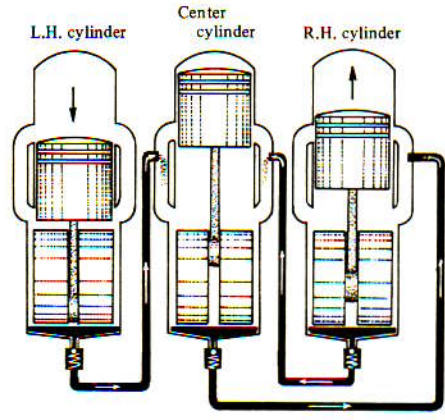
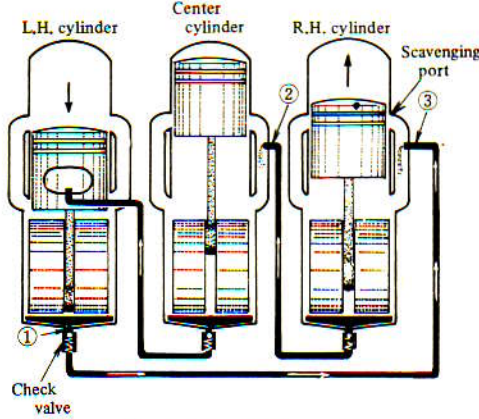

Fig. 6-12 SRIS type 1
Fig. 6-13 SRIS type 2
The construction of SRIS (Suzuki Recycle Injection System) is so made that oil accumulating in the crankcase bottom is forced into the scavenging ports of adjacent cylinders through the rubber pipes with the help of positive and negative pressures induced by each cylinder. A check valve is fitted to the outlet of the crankcase lower part in order to prevent the reversion of oil flow. There are two piping forms for this SRIS, the one shown in Fig. 6-12 has been equipped on the machines from the first production, and the other shown in Fig. 6-13 is modified type for later model.
To take the later type (Fig. 6-13) for example, it is understood that when the piston on the left hand cylinder moves downwards, its crank chamber is subjected to a positive pressure, moving the oil outside of its outlet port ①. Simultaneously with that, the piston on the center cylinder is near the top dead center and its crank chamber has a negative pressure, taking suction of fresh gases from the carburetor and oil from the SRIS hose ②.